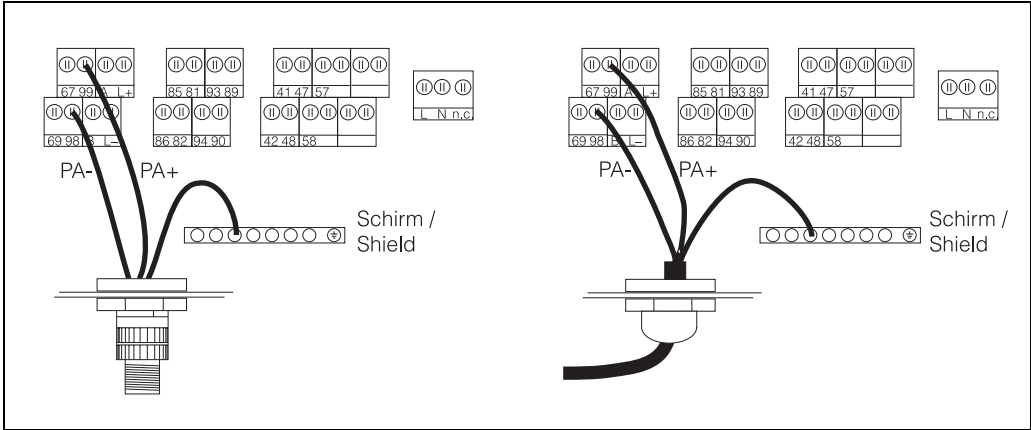

Fig. 4: Transmitter bus cable connection Mycom S-PA
3. Connect the cable cores of the bus cable to the terminal block as shown in Fig. 4. Reversing has no effect on operation.